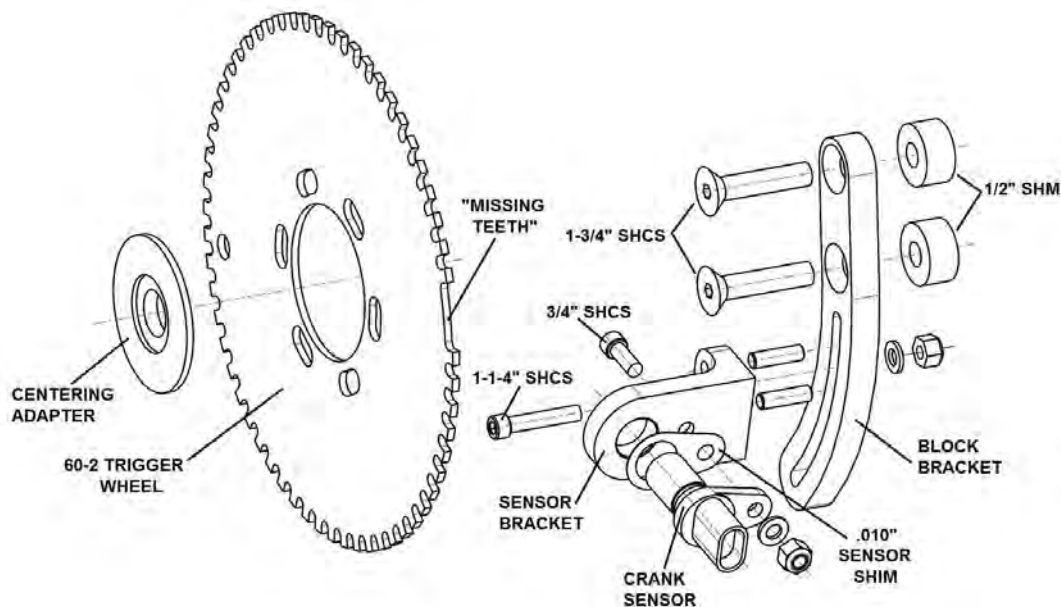

Figure 1
2. Using the 3/4" long socket head cap screw, washer and locknut, install the crank sensor to the sensor bracket using one .010" shim. Note the proper orientation of the sensor and sensor bracket in **Figure 1**.
3. Using the 1-1/4" long socket head cap screw, washer and lock-nut, install the sensor and bracket assembly to the block bracket as shown in **Figure 1**. The dowel pins will help align the sensor bracket. It is possible that the sensor will interfere with the trigger wheel. If it does, add more .010" shims as needed to obtain a .015"-.030" air gap.